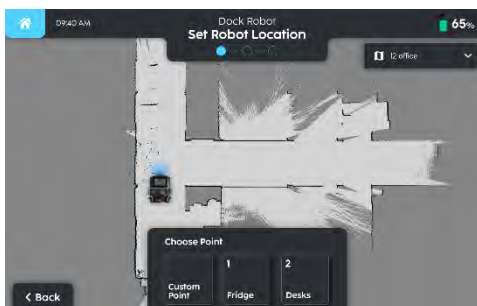

Fig. 4
1. If robot is not localized, select a point closest to the robot to initiate localization process. (Fig 4).